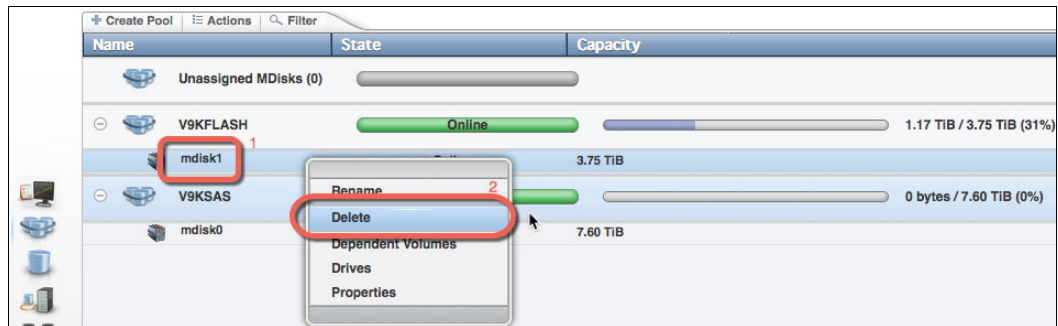

Figure 13-29 Delete the mdisk from the pool
- Right-click the managed disk (mdisk1) and select **Delete** (Figure 13-29).